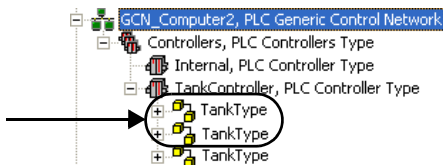

Figure 23. Created Process Objects
22. Expand the controller object to view the created process objects as shown in Figure 23.